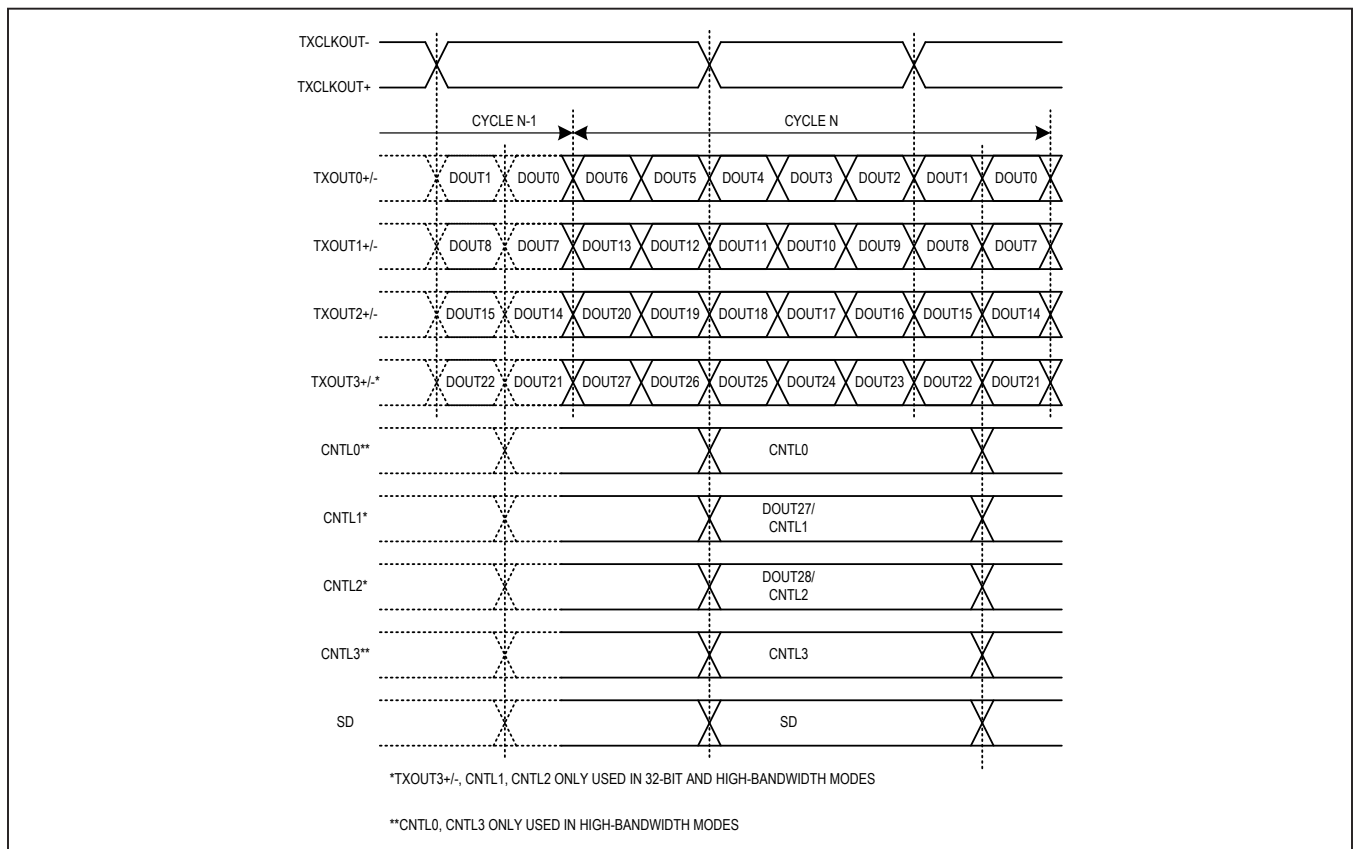
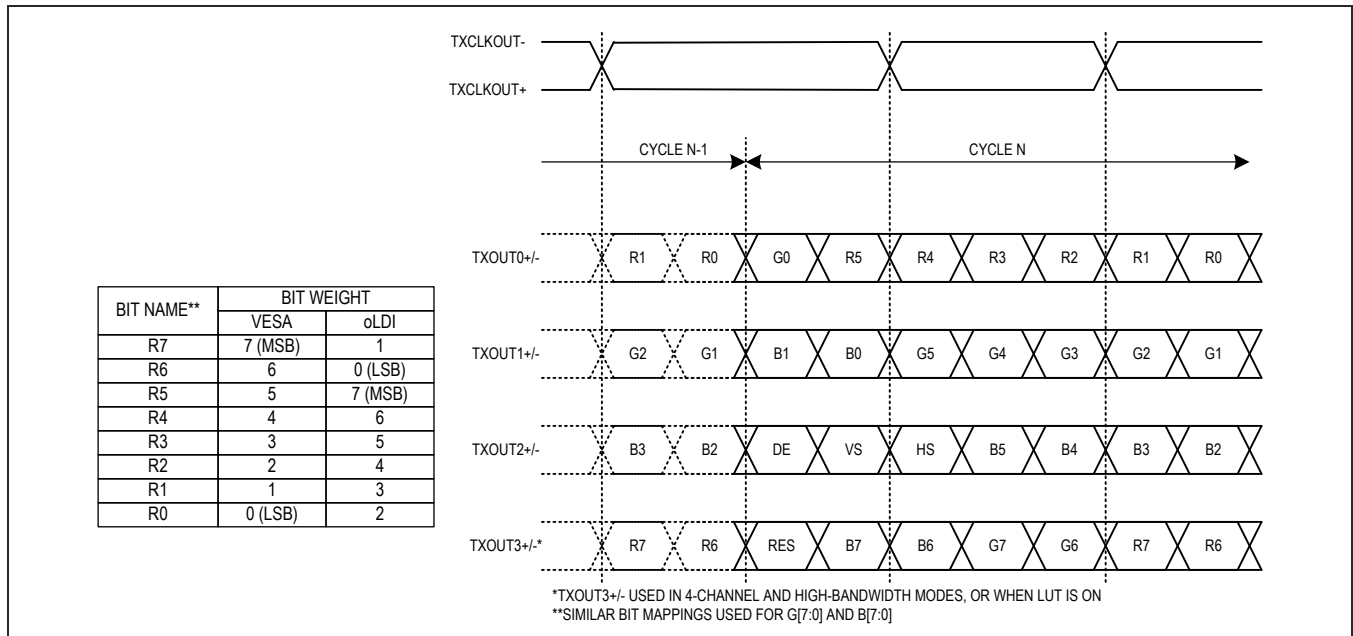

Figure 16. LVDS Input Timing
Figure 17. LVDS Clock and Bit Assignment
**Table 2. Output Map (See Figure 16 and Figure 17)**